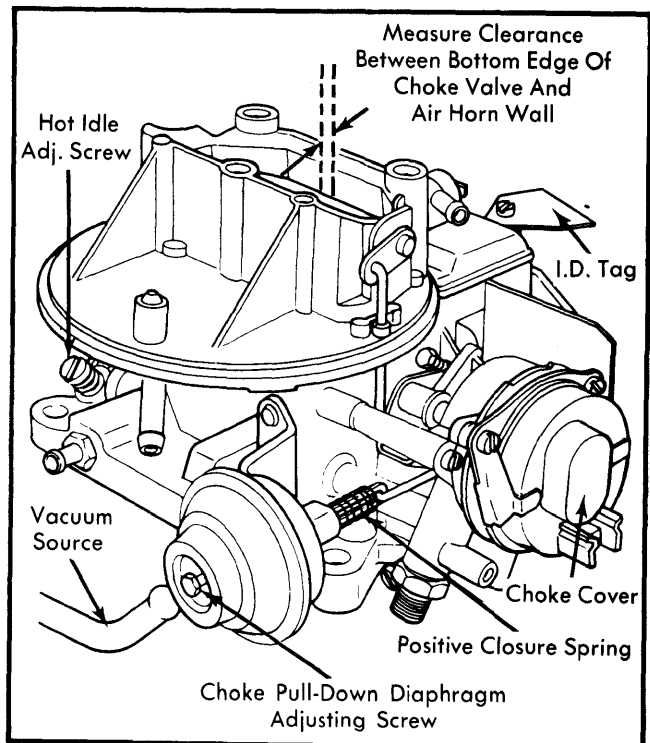

Fig. 4 Adjusting Choke Pull-Down Clearance
4) Measure clearance between lower edge of choke valve and air horn. If adjustment is required, turn screw at rear of diaphragm housing to achieve proper clearance. See Fig. 4.